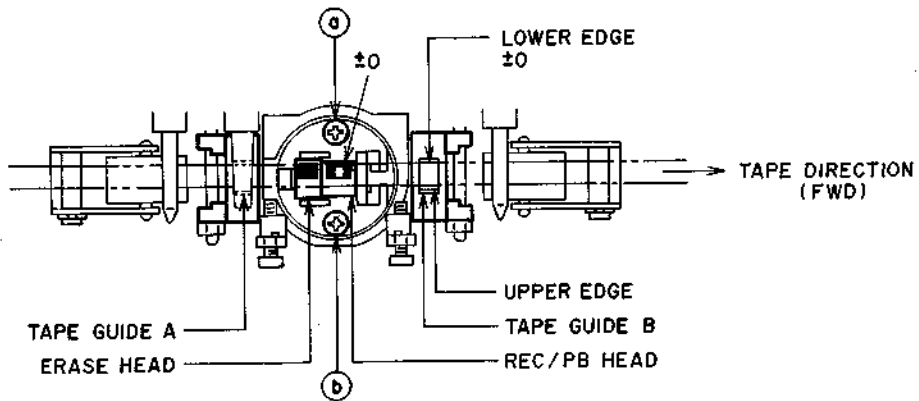

Fig. 6-1
(Refer to Figs. 6-1, 6-2 & 6-4)
(Refer to Figs. 6-1 & 6-2)
- 5) When the head replacement is necessary, loosen only the screws (a) & (b) in Fig. 6-1 for easy replacement.